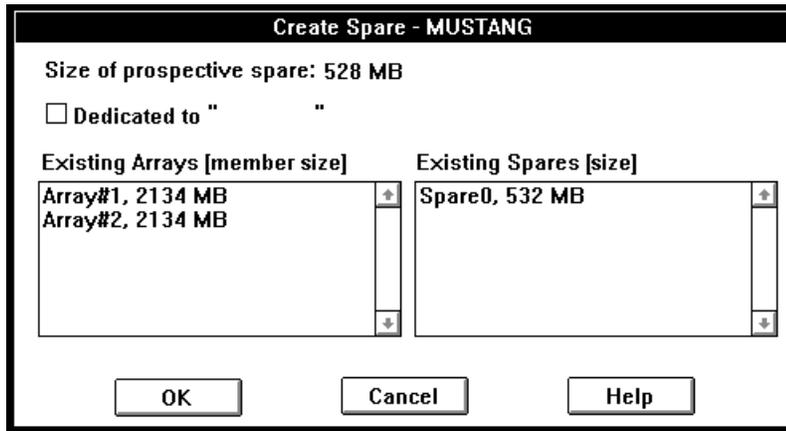

Figure 3-5. Create Spare Dialog Box
- 3 Click **Create Spare...** The Create Spare dialog box appears, as shown in Figure 3-5. A list of already-defined spares appears on the right. Names of existing arrays appear on the left only if the disk you selected is large enough to protect that array as a spare.